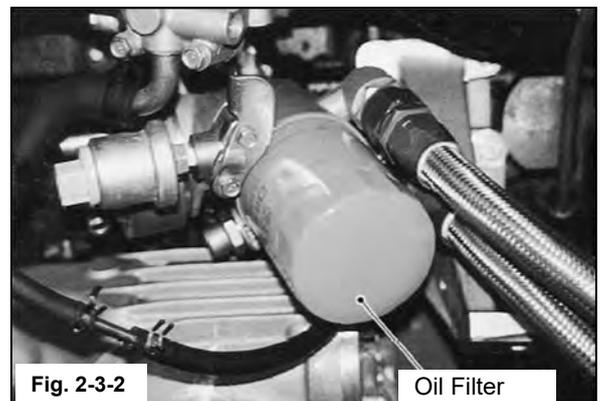

Fig. 2-3-2
- (2) Install the Oil Filter to the Oil Filter Mount. (Fig. 2-3-2)